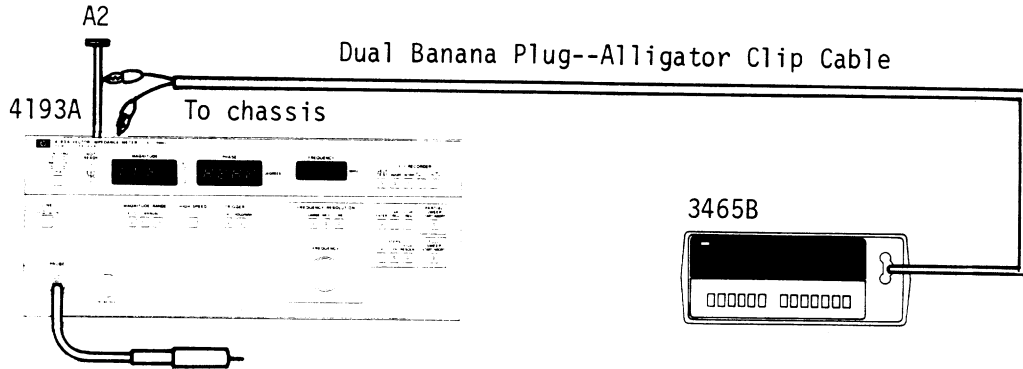

Figure 5-8. A2 Output Amplifier Bias Adjustment Setup.
3. Connect the INPUT terminal of the 3465B to A2TP2 as shown in Figure 5-8.